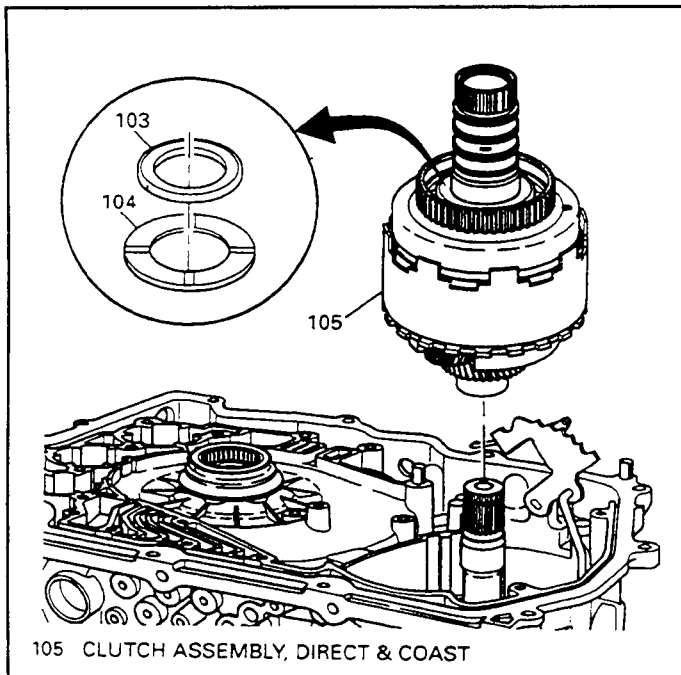

Figure 72
70. Remove the direct/coast clutch and the reaction carrier assembly by lifting straight up as shown in Figure 72. Keep the bearing assembly (103) and the selective thrust washer (104), located on top, with the assembly for now.